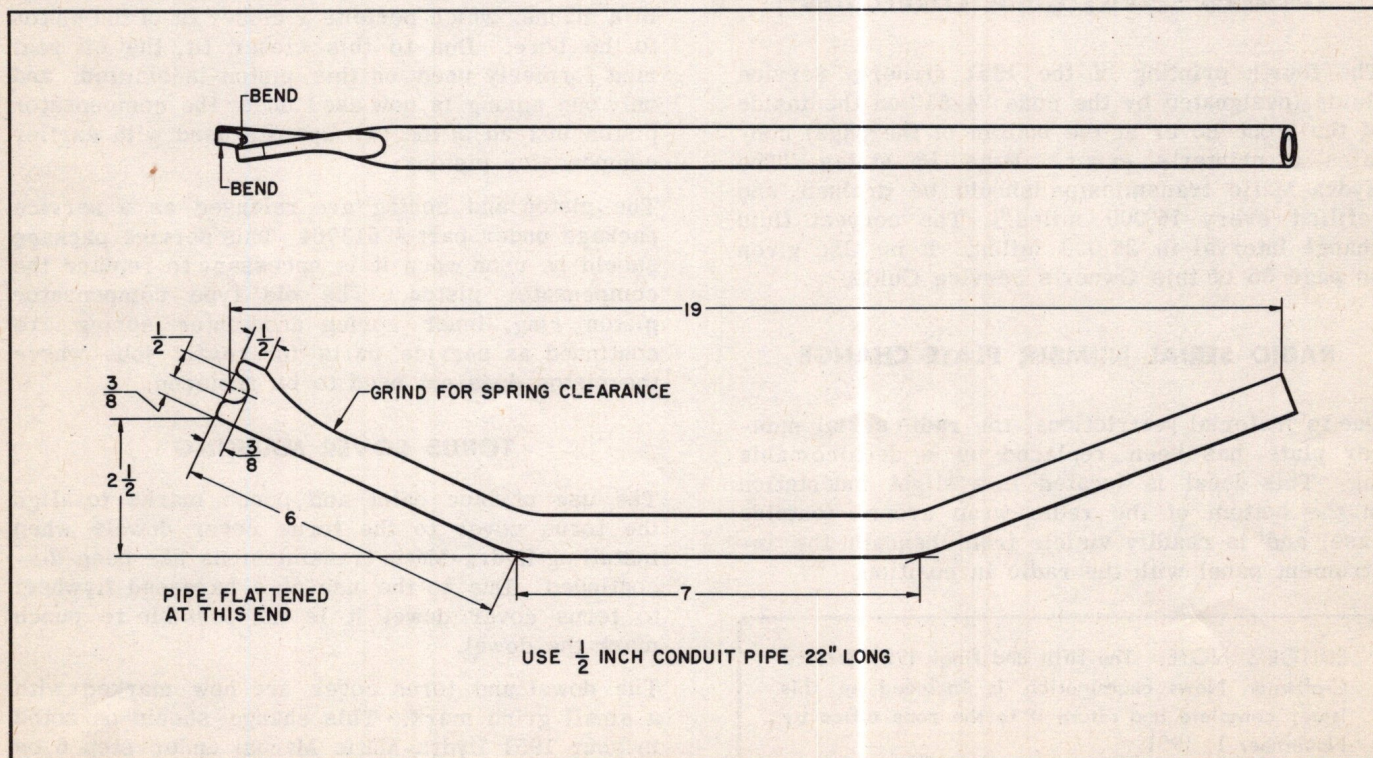

Fig. 2 Hood Hinge Spring Tool
Secure a piece of $\frac{1}{2}$ " conduit pipe (or similar pipe) approximately 22" long, and make the tool (Fig. 2) in the following manner:
2. Grind a notch into the flattened end of the pipe as shown in Fig. 2.
5. Cut off the open end of the pipe to give the proper length of 19" (Fig. 2).
6. Grind clearance for spring at flattened end (Fig. 2) and remove all burrs on the tool.
7. Place notched end of tool in a vise and turn tool clockwise to give the notched end a twist as shown in Fig. 2.